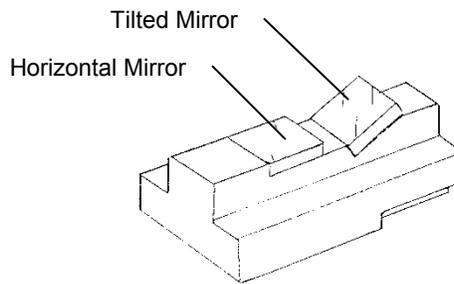

Figure 6 • Alignment Fixture
- Replace the sampling cup with the alignment fixture (Figure 6). Slide the alignment fixture into the Praying Mantis™, with the horizontal mirror going in first. In this orientation, the tilted mirror is in the sampling position.
- Slide the alignment fixture (Figure 6) into the Praying Mantis™, with the tilted mirror going in first. In this orientation, the horizontal mirror is in the sampling position.
- If temperature control is desired, connect the thermocouple and the heater (Figure 6) to a suitable temperature controller.
- If the HVC is to be operated at temperatures above 100°C, use 1/4" tubing to connect the two cooling ports (see Figure 6) to a water inlet/outlet or a coolant circulator. If needed, use a hose clamp to secure the tubing to the barbed fitting.
- If vacuum is desired, connect the gas outlet (1/4" VCO fitting, see Figure 6) to a vacuum pump or other source of vacuum using 3/8" I.D. vacuum tubing. Seal off the two gas inlet/outlet ports.
- If reaction or process gas/es are to be passed through the sample, connect the gas inlet/outlet ports (1/4" VCO fitting, see Figure 6) as needed to the gas source/s. Connect the gas outlet and seal off any unused gas ports.